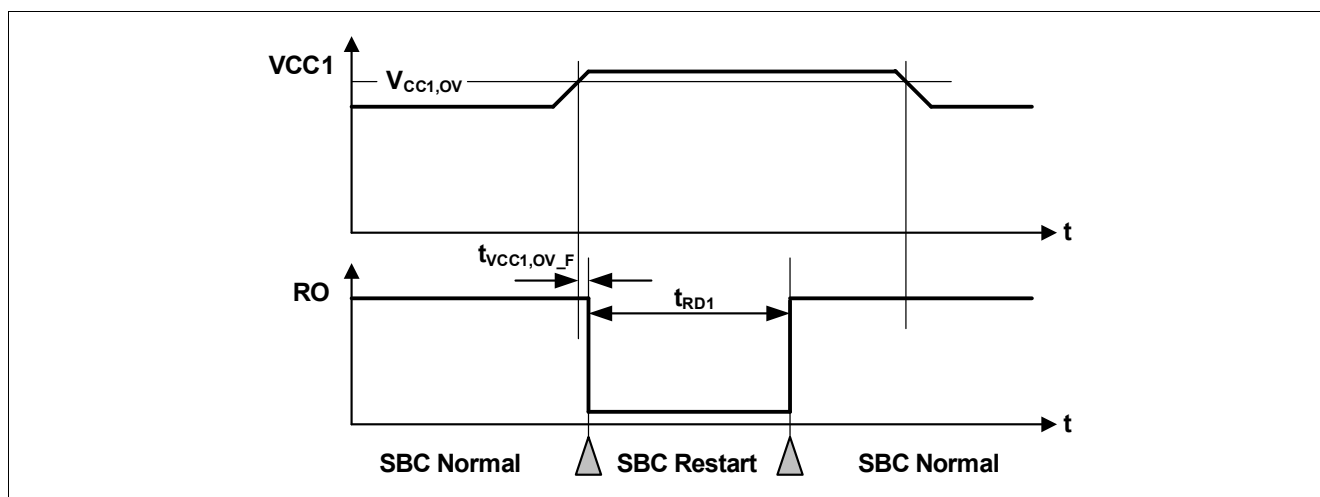

Figure 53 VCC1 Overvoltage Timing Diagram
- If the bit **VCC1\_OV\_RST** is set and **CFGP** = '1', then SBC Restart Mode is entered. The FOx outputs are activated. After the reset delay time ( $t_{RD1}$ ), the SBC Restart Mode is left and SBC Normal Mode is resumed even if the VCC1 overvoltage event is still present (see also **Figure 53**). The **VCC1\_OV\_RST** bit is cleared automatically;